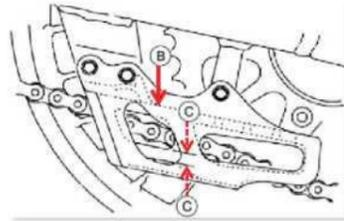

Fig. 2
3. Check the rear sprocket chain guide slider *Q* for wear and/or damage. Fig. 2